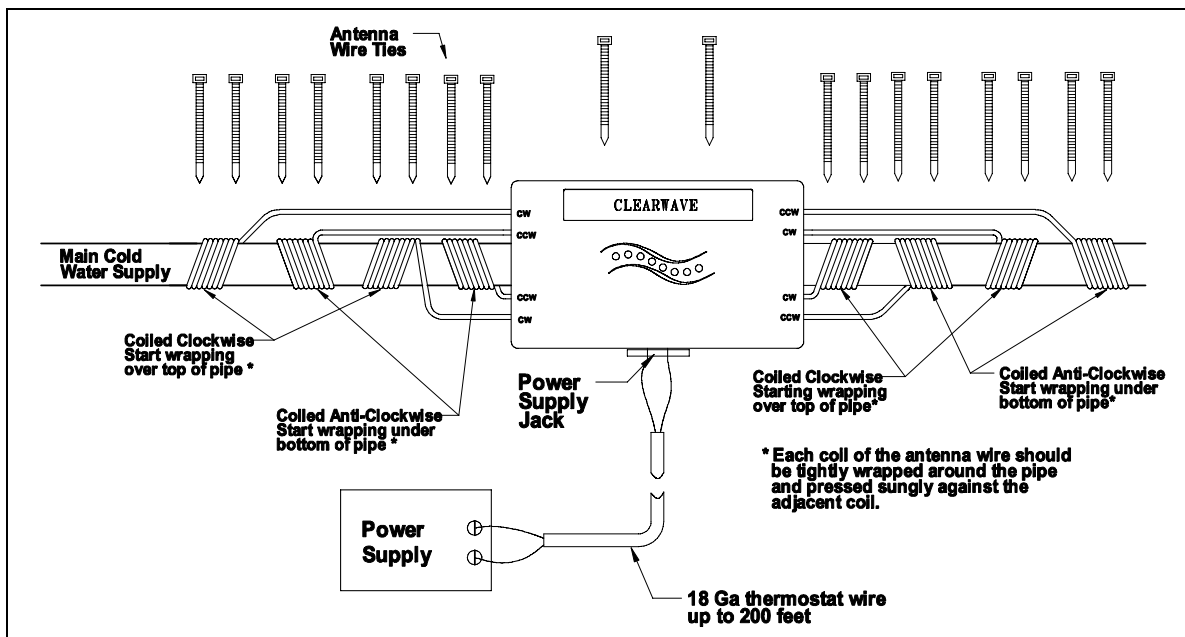
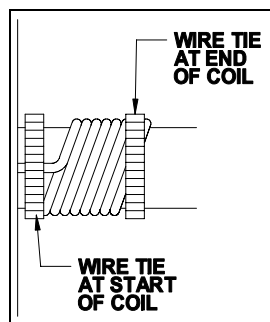
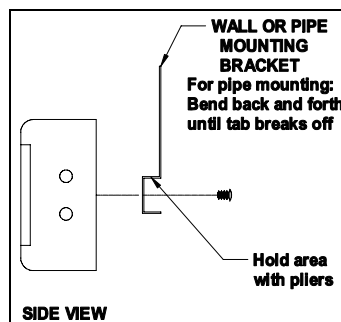

Figure 1
Figure 1A
Figure 2
1. One set of mounting brackets are provided, for mounting the ClearWave™ onto 3 inch to 6 inch water pipes or wall mounted near the selected pipe area. Mount the mounting brackets to the base of the ClearWave™ by using the screws provided. Mount the ClearWave™ onto the pipe with wire ties or to the wall with appropriate fasteners. (see Figure 1) For pipe mounting, the wall mount tabs should be removed from the mounting brackets. (see Figure 2)
The antenna wrap around the water pipe on each end of the ClearWave™ (see Figure 1). A minimum of seven fully wrapped coils of the antenna wire, with each coil wrapped tightly against the pipe and pressed snugly against each other is required for best results (see Figure 1A). Each wire coil should be spaced 1 inch to 2 inches apart. The operation of the ClearWave™ and the antenna installation is not based on direction of water flow, but one antenna MUST be wrapped in a clockwise direction and the other wrapped in an counter-clockwise direction.
1. On the right side of the unit wrap the first antenna onto the water pipe by securing the “CW” clockwise antenna to the water pipe next to the ClearWave™ housing with a wire tie. Wrap the right antenna clockwise (over the top of the pipe first), keeping the antenna wire tight against the pipe and the preceding coil. Secure the end of the antenna wire to the water pipe with a wire tie (see Figure 1A). Repeat wrapping the remainder of the antennas onto the pipe alternating the wrap direction (see Figure 1).
2. On left side of the unit wrap the first antenna onto the water pipe by securing the “CCW counter clockwise antenna to the water pipe next to the ClearWave™ housing with a wire tie. Wrap the antenna counter clockwise (Under the bottom of the pipe first), keeping the antenna wire tight against the pipe and the preceding coil. Secure the end of the antenna wire to the water pipe with a wire tie. Repeat wrapping the remainder of the antennas onto the pipe alternating the wrap direction (see Figure 1).